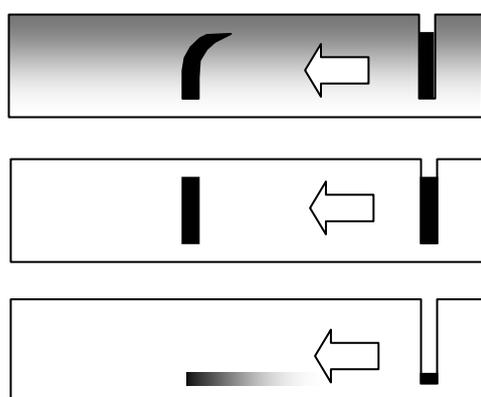

Fig. 12 Cause of disturbed bands obtained in AGE.
volume of the sample is small, it is locally overcharged, causing tailing (Fig. 12 (C)).